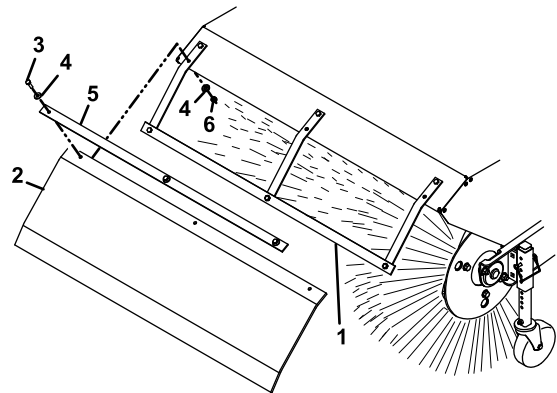

Figure 4
3. Place the deflector onto the support frame assembly and align the three holes with lower holes of the support frame assembly and broom hood. Install the second long support strap on top of the deflector and secure with three 1/4-20 x 1 inch screws, six washers, and three 1/4-20 inch nyloc nuts as shown in Figure 4.